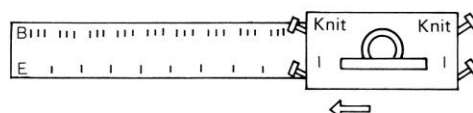

Fig.68
With the carriage on right, set to No.1 both return cam levers and to "KNIT" both guide cam levers. (Fig.68) Using the 1 x 3 selector plate, bring forward into position (E) from position (B) every 4th needle from right end needle. (Figs.68 & 69)